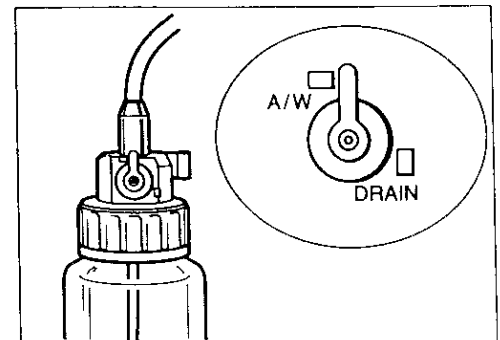

Fig. 10
3. Set the Air/Water- Drain lever to A/W (Fig. 10).